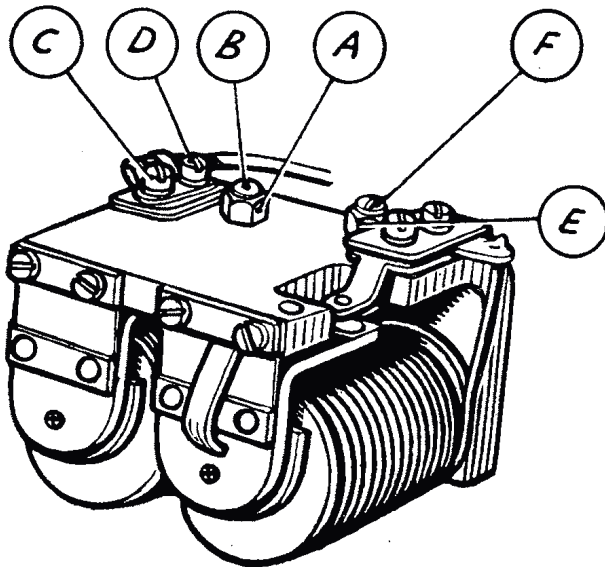

Fig. N.8
Shut off the engine, remove the control box cover, release the locknut (A) (Fig. N.8) holding the adjusting screw (B) and turn the screw in a clockwise direction to raise the setting or in an anti-clockwise direction to lower the setting. Turn the adjusting screw a fraction of a turn and then tighten the locknut.
To render the regulator contacts accessible for cleaning, slacken the screws securing the plate carrying the fixed contact. It will be necessary to slacken the upper screw (C) (Fig. N.8) a little more than the lower screw (D), so that the contact plate can be swung outwards. Clean the contacts by means of fine carborundum stone or fine emery-cloth. Carefully wipe away all traces of dirt or other foreign matter. Finally tighten the securing screws.
If the cut-out has become out of adjustment and operates at a voltage outside these limits it must be reset. To make the adjustment, slacken the locknut (E) (Fig. N.8) and turn the adjusting screw (F) a fraction of a turn in a clockwise direction to raise the operating voltage